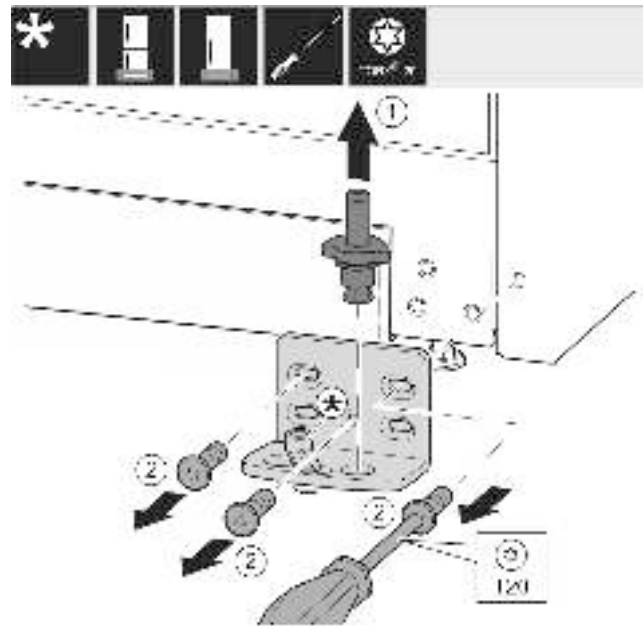

Fig. 13
- Lift the bearing pin completely upward and remove it. Fig. 13 (1)
- Remove the screws with the T20 screwdriver and take off the bearing bracket. Fig. 13 (2)